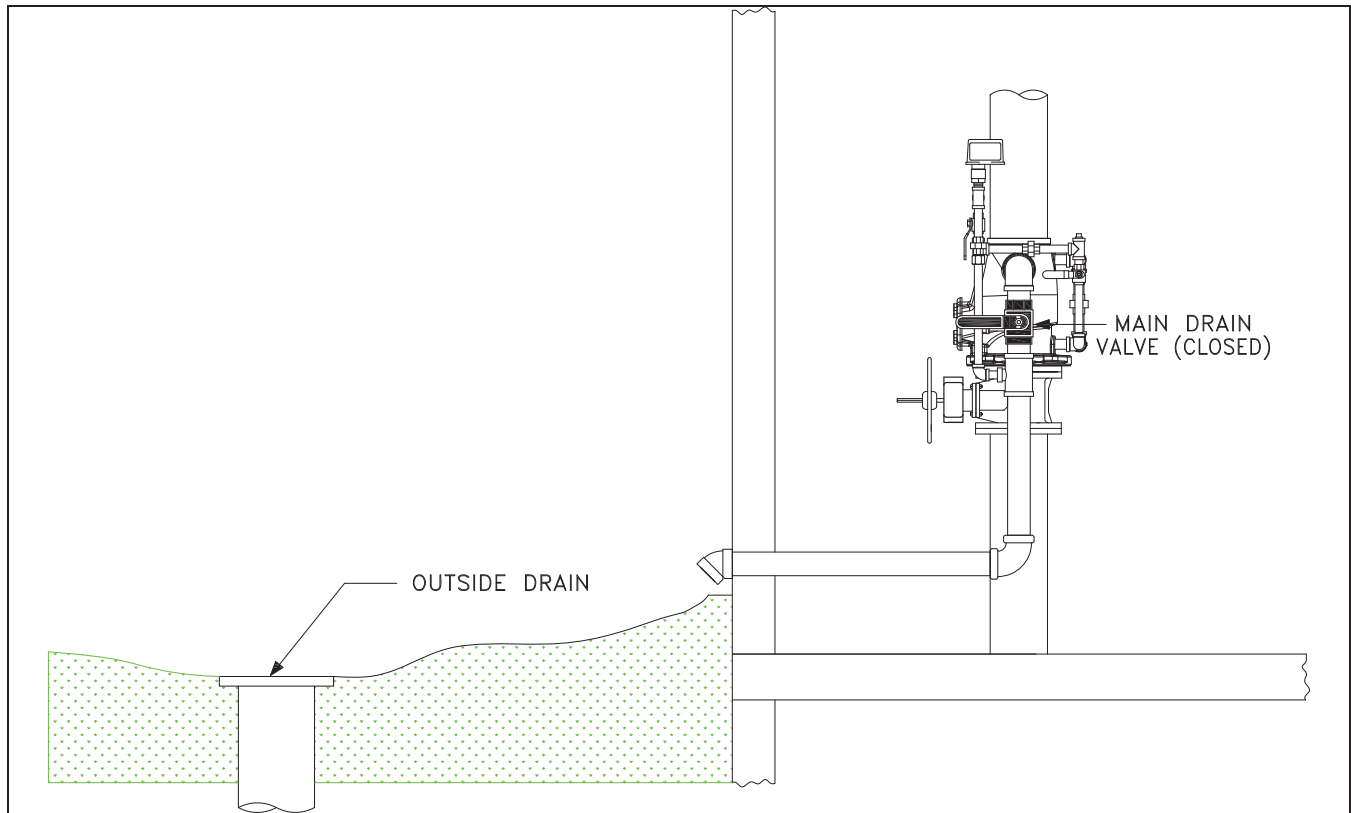

Figure 43
7. When the test is complete, SLOWLY CLOSE the main drain (Figure 43).